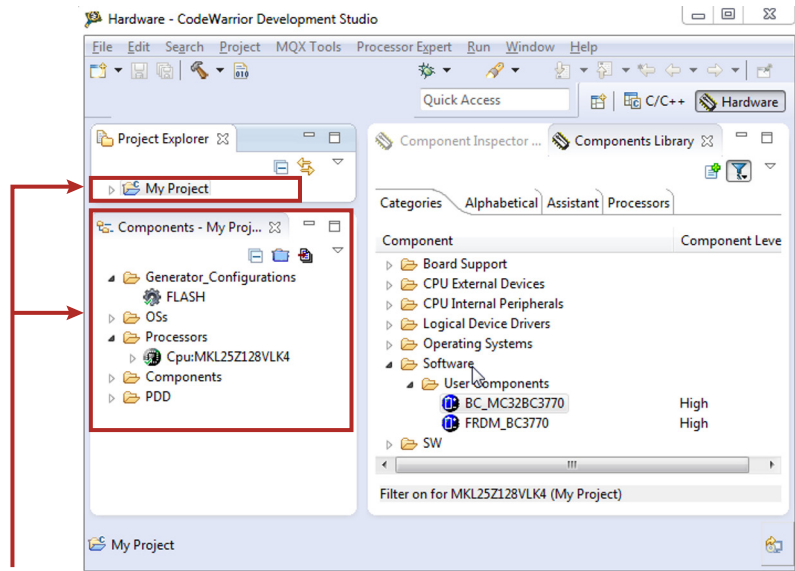

Figure 26. CodeWarrior projects and components panels with project created
6. Figure 26 shows the CodeWarrior Projects panel and the Components panel after the project has been successfully created. Before the project can be built and run, add the component (imported in Section 6.2.2, Importing an example project into the Processor Expert library, page 27) into the project. Section 6.3.1, Adding a BC3770 component into the project, page 34 outlines this procedure.